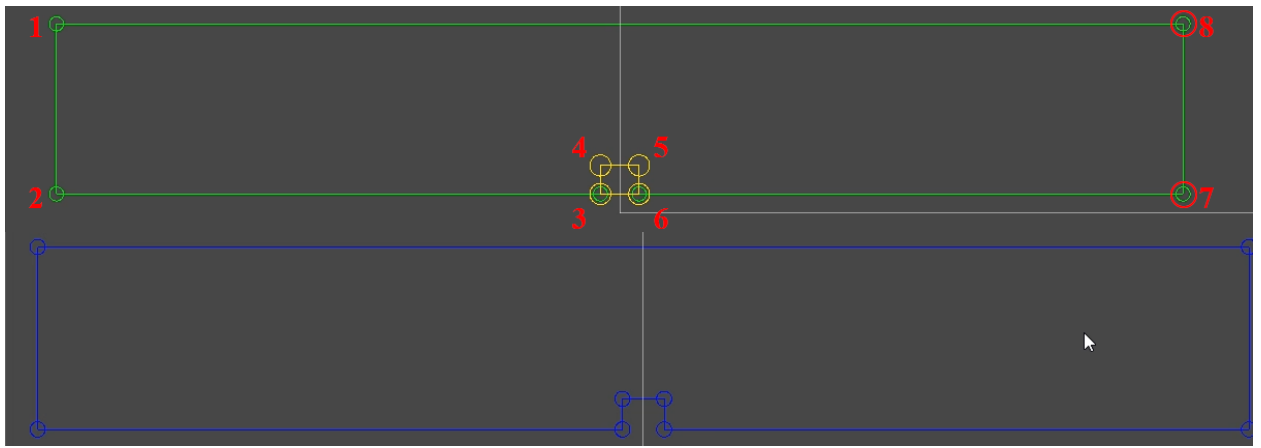

Figure 12
- 4) Formation of a new contour of the bar. To form a new contour of the bar, we take two adjacent points from the updated contour of the bar, add the first point to the new contour and check both points that they are in the updated contour of the tool, if they are both, we recognize these indices, add points to the new contour from the updated tool contour between the resulting indices. We do this until we reach the end of the updated outline. And we get a new outline Figure 12. In the code, this is the class “Wood”, the method “`_cut`”.